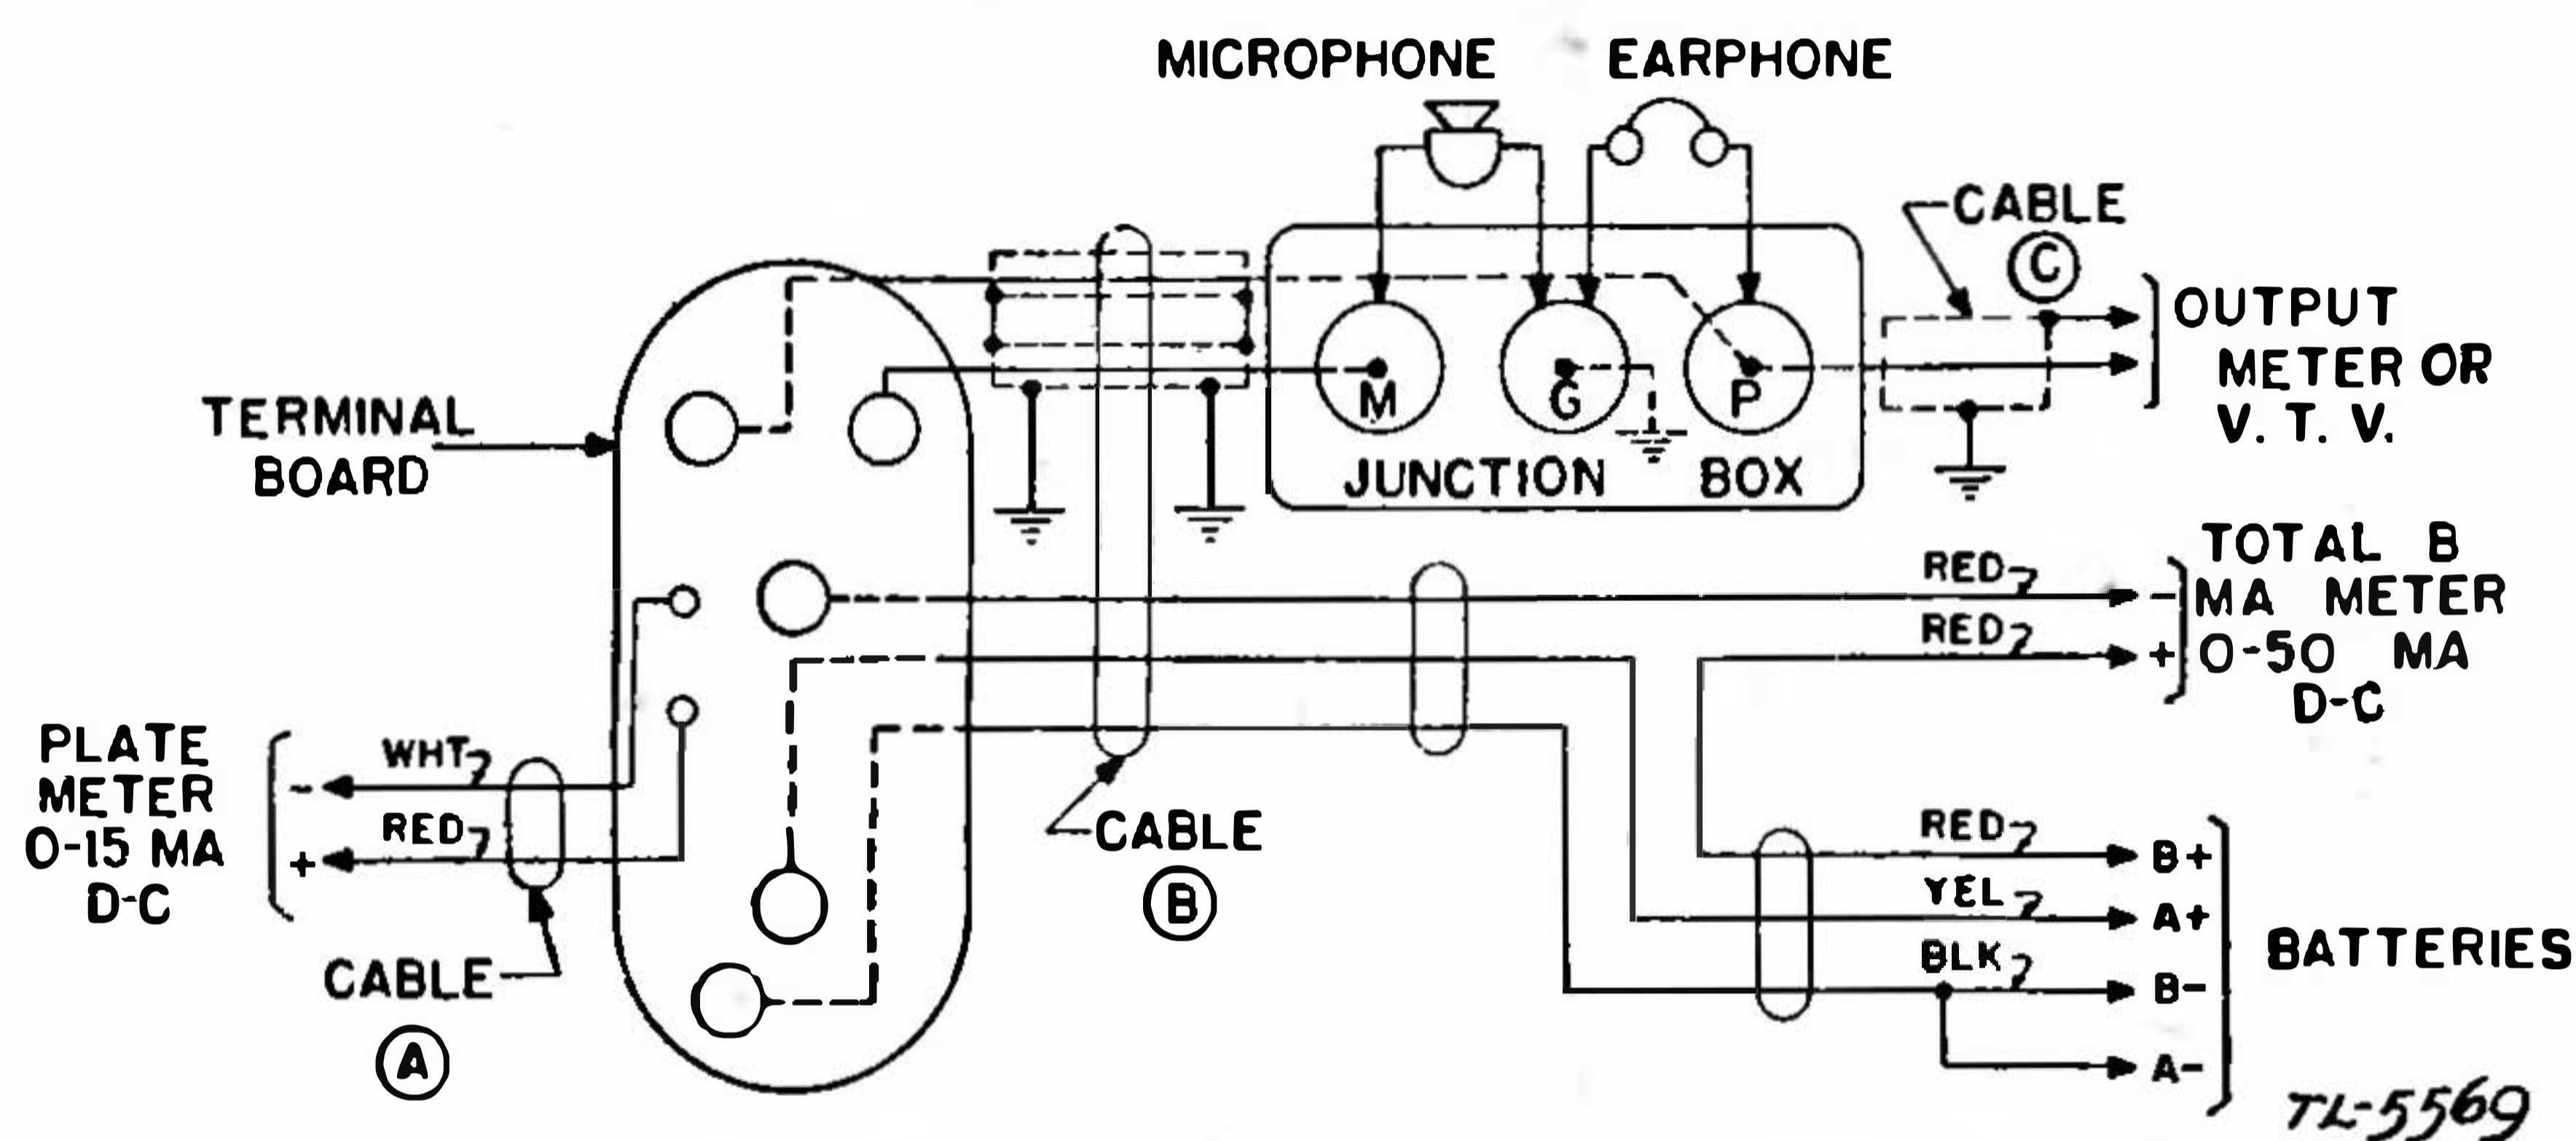

FIGURE 15.—Test equipment IE-15-A—harness connections.
67. **Test harness and meters.**—A special test harness cord supplied with the stand provides connections for the batteries, r-f amplifier plate current meter, total B current meter, audio output meter, earphone, and microphone. The schematic drawing of this harness is shown in figure 15. The 15-milliamperere meter is used to measure the r-f amplifier plate current while the 50-milliamperere meter is used to measure the total B battery BA-38 current. The terminal board attached to the harness provides a simple method of making the connections to the chassis.